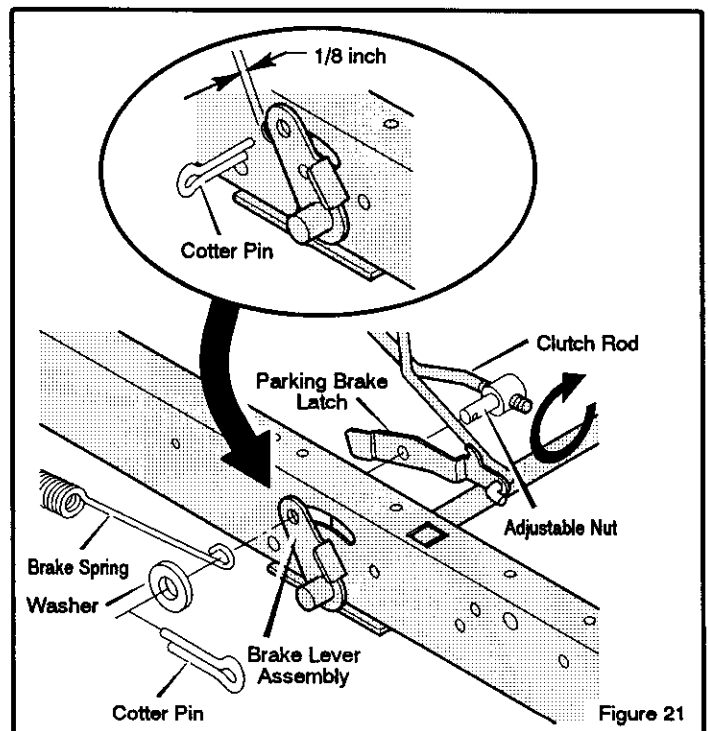

Figure 21
2. Remove the **cotter pin**, **washer**, and **brake spring** from the **adjustable nut** (Figure 21).
4. Use the **cotter pin** removed in step 2. Hold the **cotter pin** at the back of the slot and move the **brake lever assembly** rearward against the **cotter pin**. This will set a 1/8 inch (3 mm) gap between the **brake lever assembly** and the back of the slot (Figure 21).